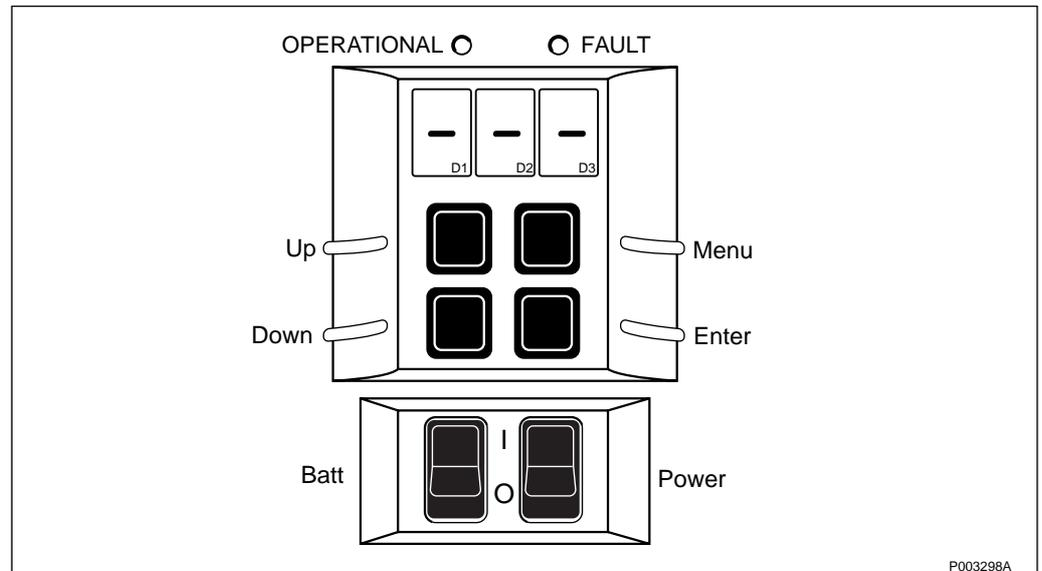

Figure 321 Display view if no faults are detected
- If there are no faults, this is indicated on the alarm display as shown in *Figure 321 on page 263*.